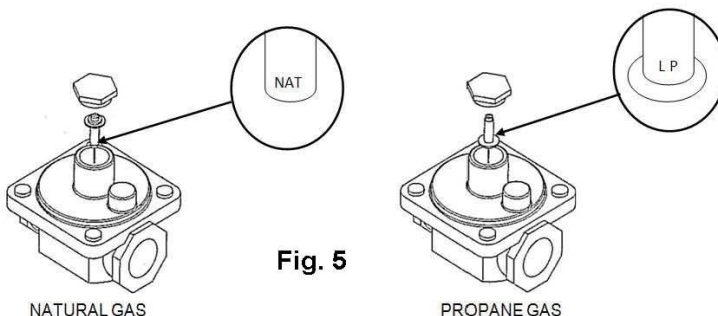

Fig. 5
2. Set the regulator to 10" W.C. by inverting the regulator spring plug. See Fig 5.
3. Set the regulator to 10" W.C. by inverting the regulator spring plug. See Fig 5.